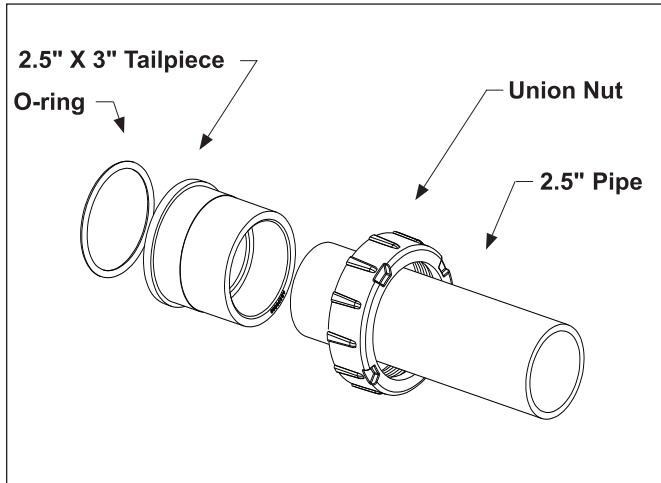

Figure 4. 2.5" X 3" Assembly Shown Connecting a 2.5" Schedule 40 Pipe
- For 2.5" pipe size, attach the slip fit side of the tailpiece to the end of the 2.5" pipe as shown in Figure 4.